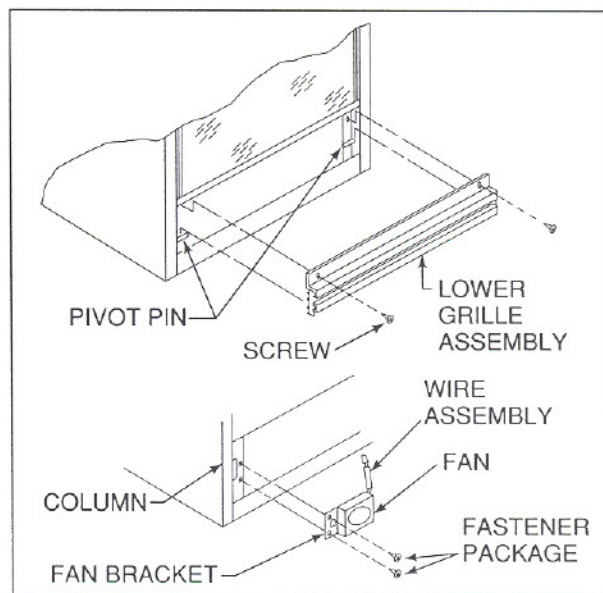

Figure 4
**Fan Installation.** If an optional FK10 Fan Kit or RC5 Remote Burner Control are desired, or may be added at a later date, the integral electrical Junction Box must be connected to a switched (ON/OFF) 120 Volt 60 Hertz supply. Two supplies and switches are required if both are used. Simply remove the front access panel as shown in Section V of the Installation & Operating Instructions. Plug the Fan connector into the Junction Box and secure the fan to the column using two screws as shown in Figure 4.
**Removal of Front Access** (See Figure 4). Lift the panel to disengage the pivot pins and pull the panel forward. The glass panel does not require removal for this. To replace the panel, position it over the pivot pins and lower.